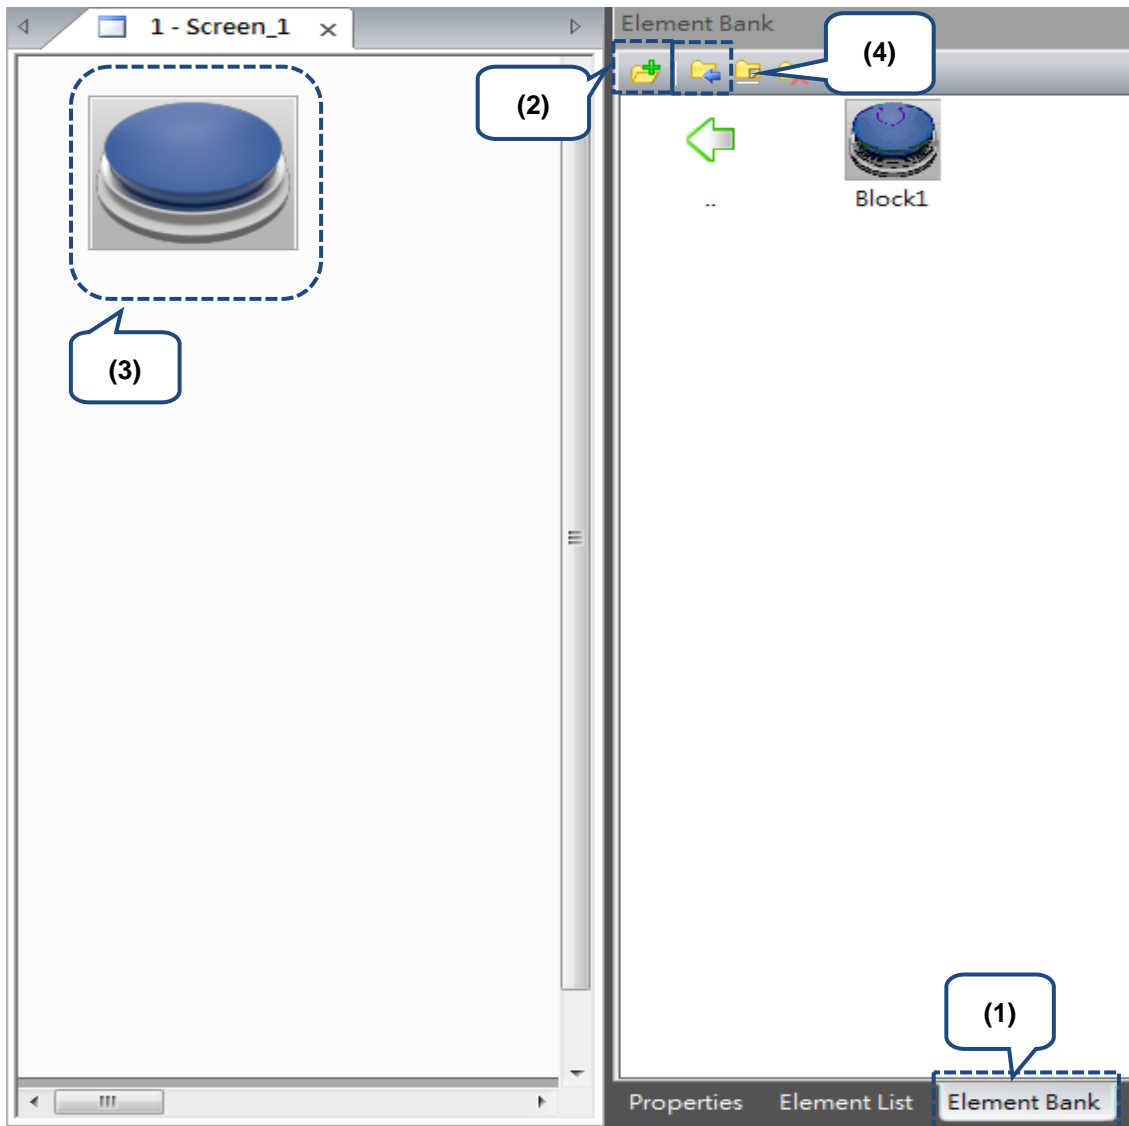

Figure 2.2.4 Steps to create the Element Bank
Figure 2.2.4 illustrates how to create an Element Bank. (1) Go to the Element Bank page. (2) Click  to create a new Element Bank. (3) Create an element; (4) Click  to import the element data.